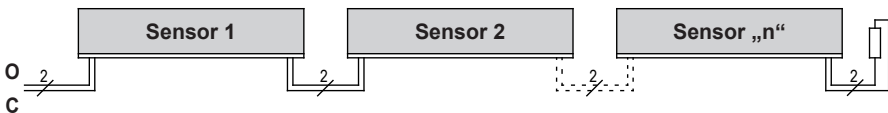

Figure 2: Wiring of multiple sensors; in this example: safety contact edge
9.2 Connecting multiple sensors per sensor circuit (figure 2)
One or more sensors can be connected to sensor input **O** or **C**. For this purpose, the individual sensors are connected in series according to figure 2.